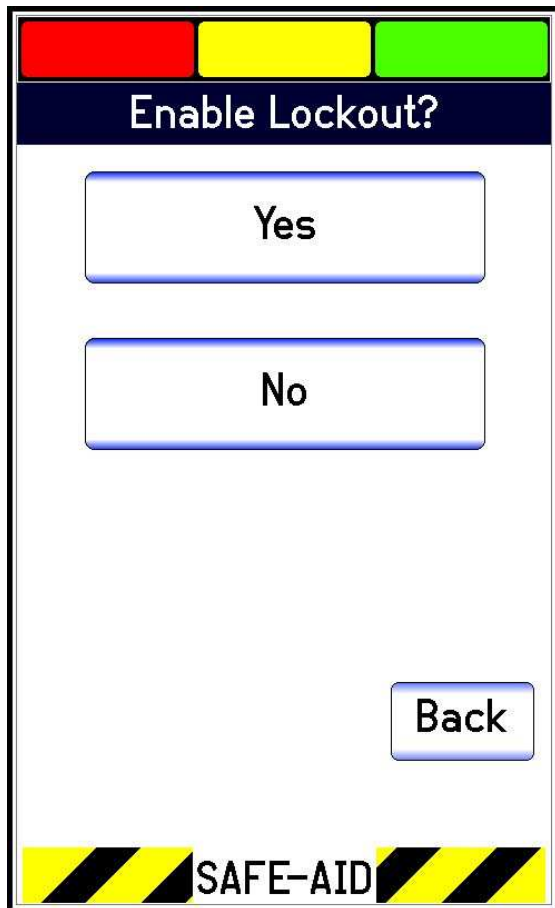

Figure 26
3. To lock or cancel a locked program select either button below the Main or Auxiliary Program, **Enable Lockout** screen (figure 26) will be displayed.